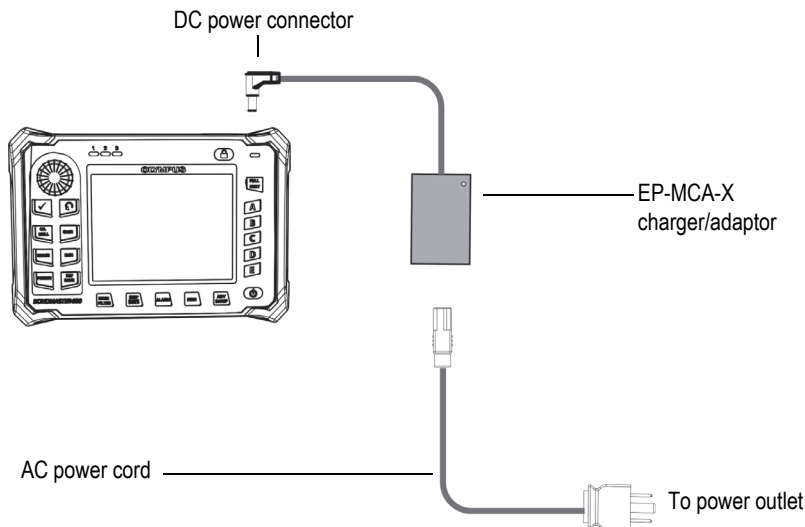

Figure 2-7 Connecting the charger/adaptor
1. Connect the AC power cord to the charger/adaptor and to an appropriate power outlet (see Figure 2-7 on page 38).